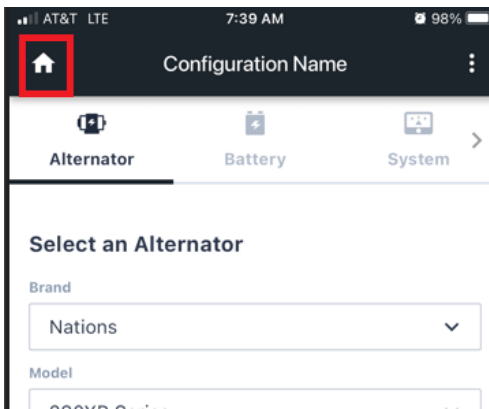

Figure 13A – Select Home button
- Input the settings shown below in Figures 13A, 13B, 13C, 13D, 13E & 13F.